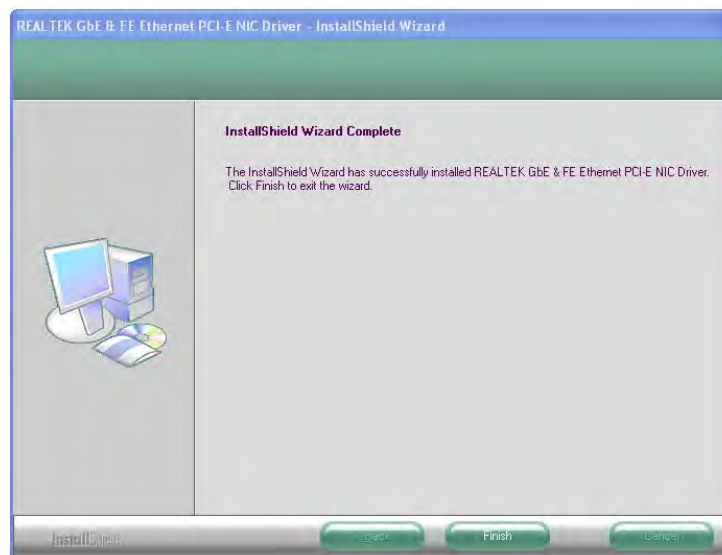

Figure 6-16: LAN Driver Installation Complete
Step 10: When the driver installation is complete, the screen in **Figure 6-16** appears.